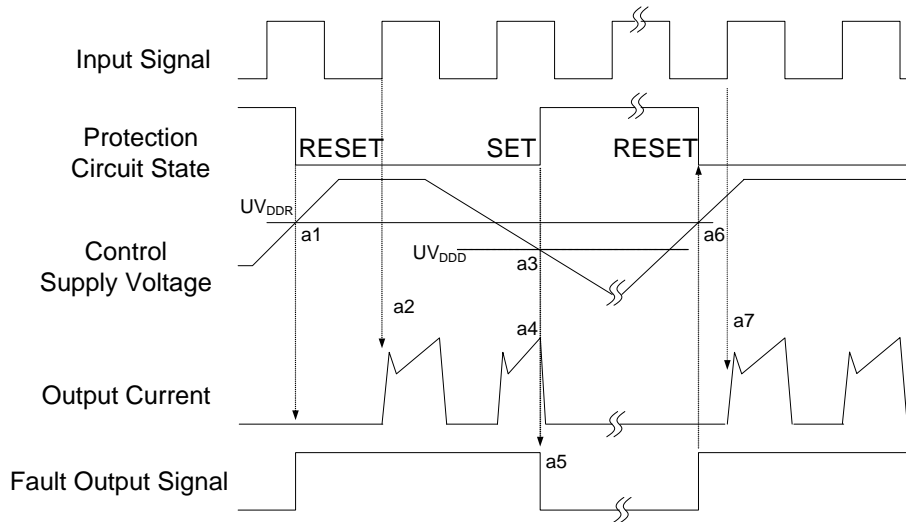

**Figure 10. Mounting Screws Torque Order**
- 13. Avoid one-sided tightening stress. Figure 10 shows the recommended torque order for mounting screws. Uneven mounting can cause the ceramic substrate of package to be damaged. The pre-screwing torque is set to 20 ~ 30% of maximum torque rating.